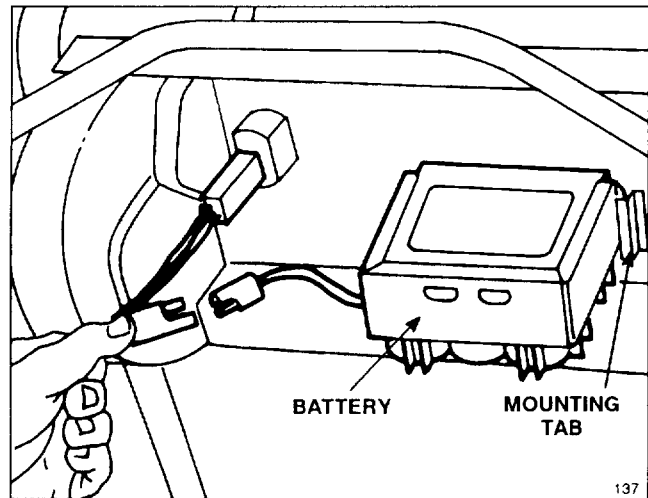

Figure 4
6. Charge battery (model 27501 only)—Refer to Charging Battery, page 12. Slide battery, decal side up, between mounting tabs on back of control panel and connect wires (Fig. 4). Insert key into switch when ready to start engine.